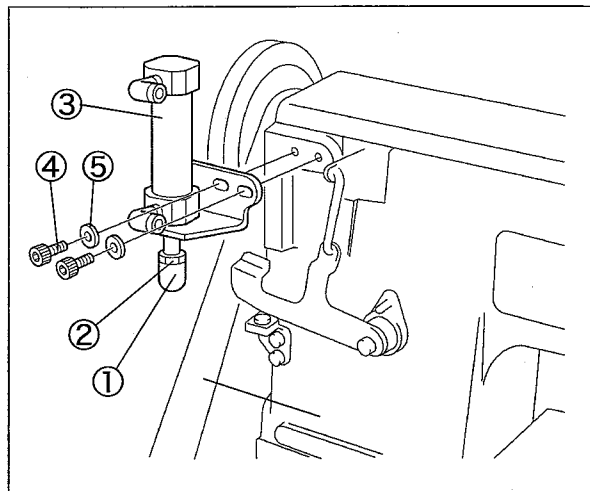

Fig. 1
1. Loosen the lock nut ② of the cylinder rod chip ① fully, and then tighten the cylinder rod chip ① fully.
2. Install the air cylinder, C. set ③ to the back of the sewing machine with the screws ④ and washers ⑤ (2 pcs. for each) as Fig.1.